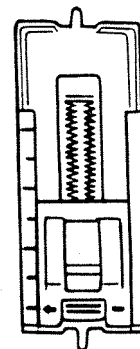

Fig. 42
8. With the needle out of the cloth, turn to "  " and complete the right side of the buttonhole. White nylon slide will run into cardboard so you cannot go beyond 1st bar tack. (Fig. 42)